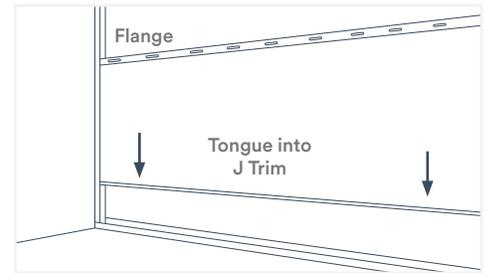

Fig. 11
- The tongue side of the panel should be installed facing towards the floor, the groove side facing towards the ceiling (Fig 11)